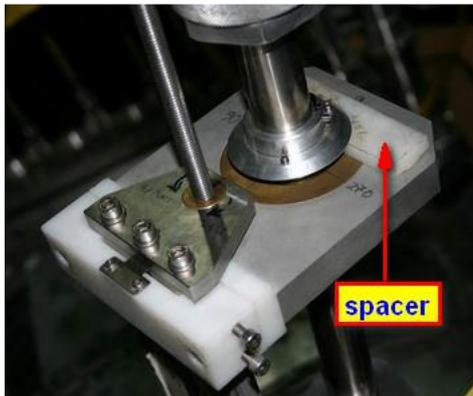

Fig.1
11. for probe SXR1, use the white spacer (see Fig.1) and put it horizontally.